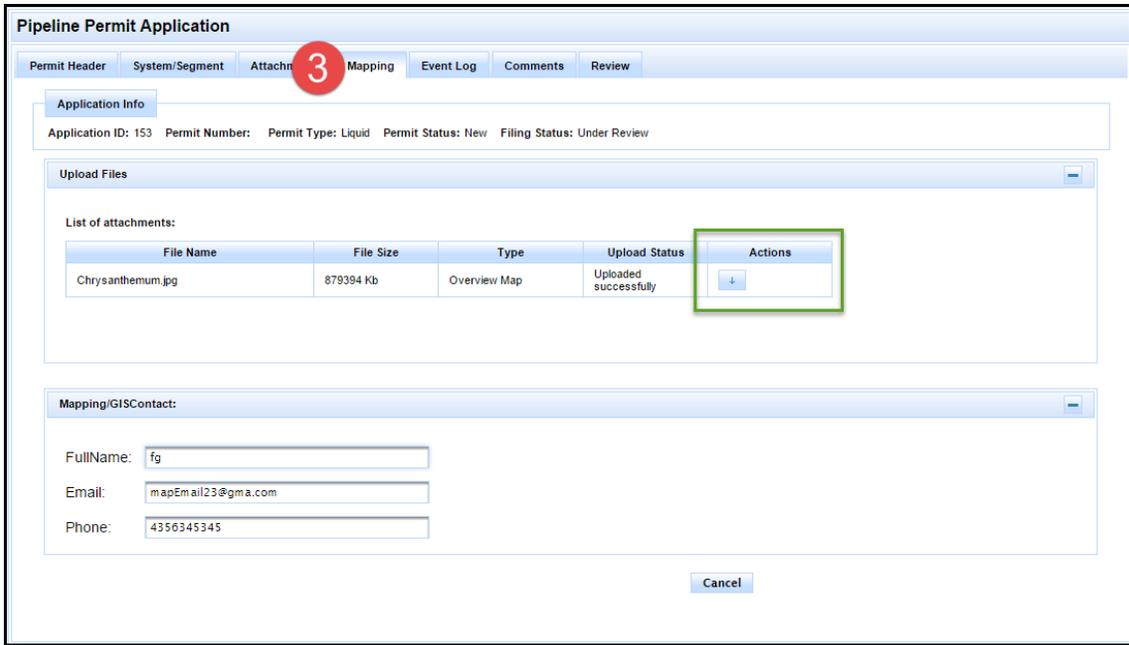

Figure 83: Mapping Reviewer Mapping Tab
3. Review the information on the Header tab. When you have finished, click the Mapping tab. An example Mapping tab is shown in Figure 83.
TIP: You can download mapping files the Operator uploaded by clicking the button in the Actions column, as shown in Figure 83 above. The Actions column is highlighted in a green box. These files can be downloaded at any time; you or the Operator may need to access these files at some future time well after the permit is issued.